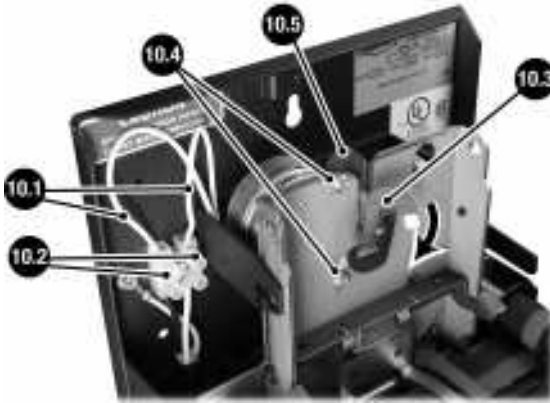

Figure 10
3. **Figure 10** shows a close-up of cam block terminal.